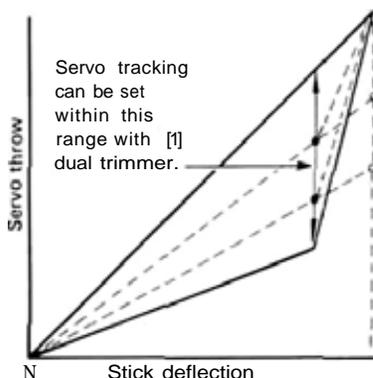

Fig. 32
- When the Aileron LINEAR/VTR Switch [3] is in the LINEAR position, servo travel is linear and directly proportional to the deflection of the transmitter control stick as shown in Fig. 32. In the VTR position (Ail. D/R Switch 14 must also be in D/R OFF pos.), servo maximum throw is unchanged. However servo tracking is the same as when the rate switch is in the D/R 1, ON position up to about 80% of the transmitter stick deflection. Servo throw then abruptly increases to the same deflection as when D/R Switch 14 is in D/R OFF position. Fig. 32 shows the servo movement curve when VTR is used. Another way to think of VTR is as "automatic dual rate" that is switched off automatically as the control stick is moved past the 80% deflection point.